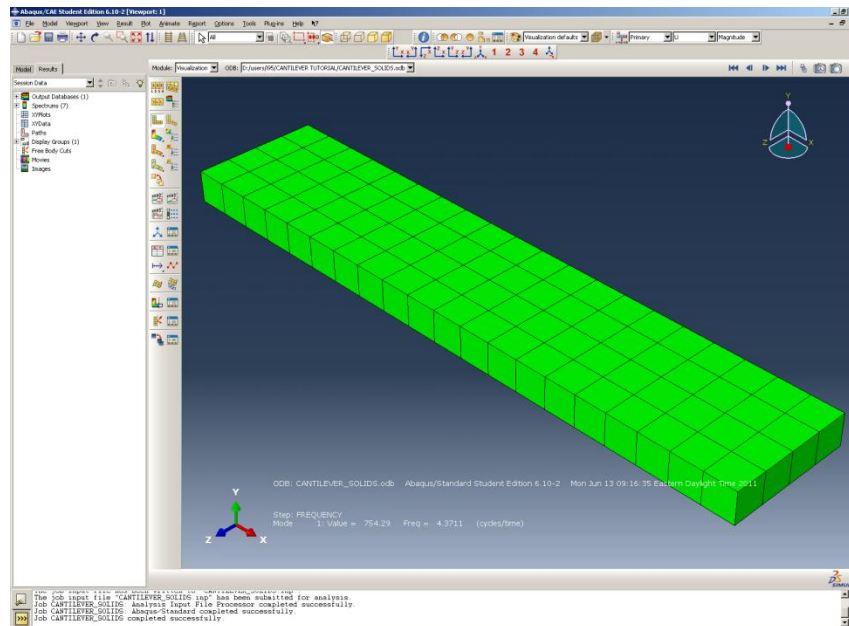

Figure 32. Analysis Results Isometric View
- If this selection was done correctly, the model should turn to a green color and the beam will have rotated to an isometric view (Figure 32).